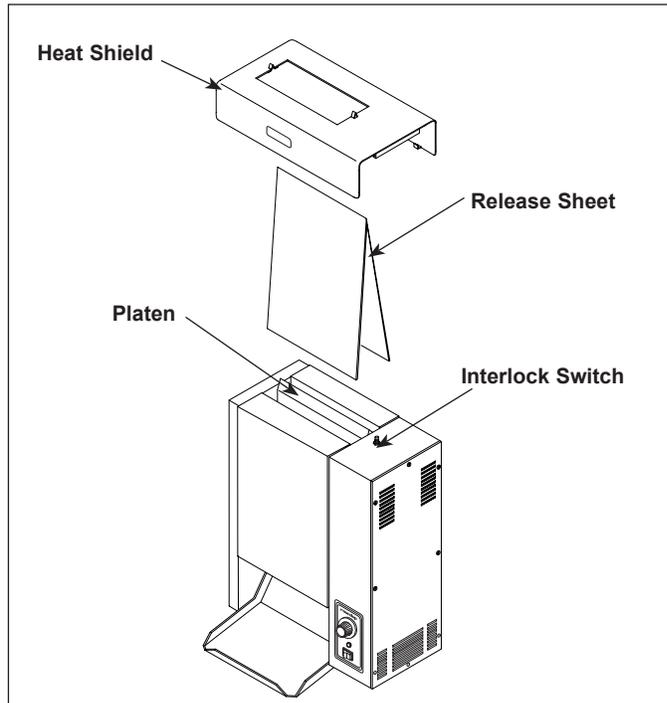

Figure 7. Removing/Installing Release Sheet
2. Put on protective gloves. Remove heat shield and release sheet (Figure 7).
6. Install the release sheet by draping it over both sides of the platen with the crease centered directly on the platen (Figure 7).
7. Install the heat shield (Figure 7). The heat shield clips fit over the tip of the platen and retain the release sheet.
**IMPORTANT:** Make sure heat shield assy. is activating (depressing) the conveyor interlock switch (see Figure 7). The conveyors will not rotate unless the heat shield is in place and interlock switch is activated (depressed).